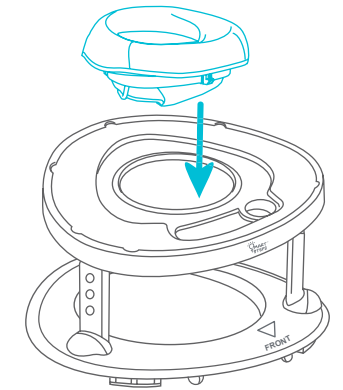

Fig. 2b
- If needed, align the seat to the center opening and press it down firmly. The seat must completely click into the tabletop (Fig. 2b).